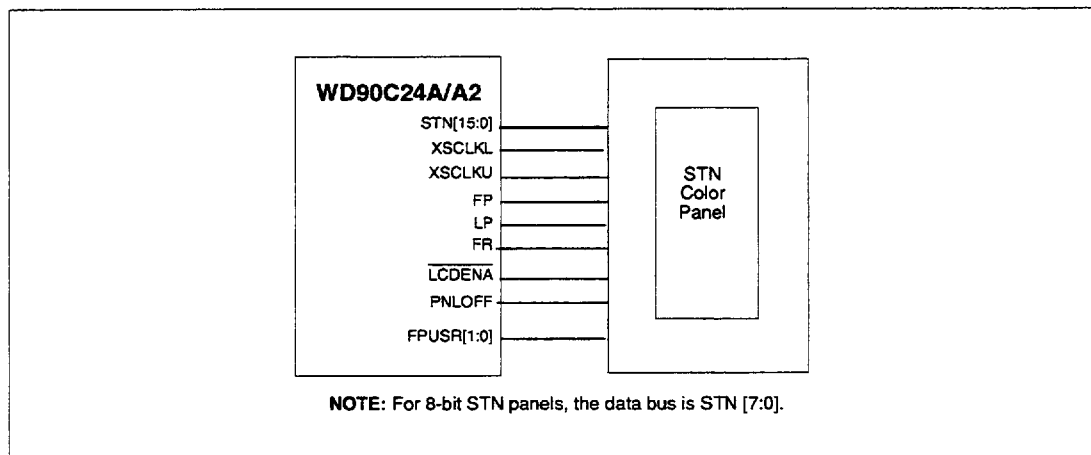

FIGURE 26-2. MULTIPLEXED COLOR STN 8/16-BIT PANEL INTERFACE
- Multiplexed Color STN 8/16-Bit Panel Interface (Figure 26-2)